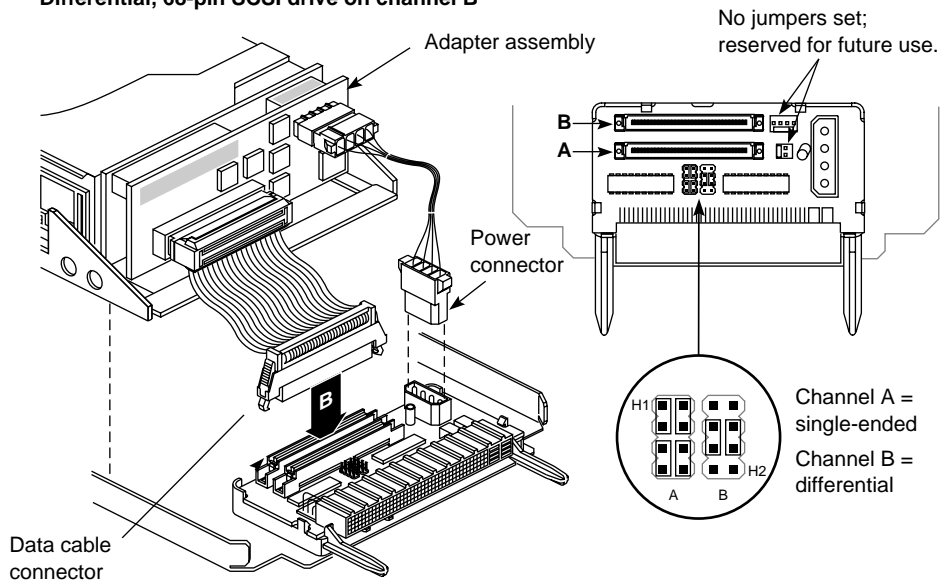

Figure 4-1 Configuring a Drive Sled Adapter Board (Different Channels)
The service person must follow the guidelines in Figure 4-1 to make a SCSI drive work in a deskside system.
- Be sure the sled-to-drive connector cable is plugged into the correct SCSI channel: single-ended(A) or differential (B).
- Set both jumper blocks H1 and H2 on the sled board to reflect the SCSI channel operation, regardless of which channel is plugged into the drive (see Figure 4-1).
- If the SCSI backplane bus is only single-ended or only differential, set all the jumpers in H1 and H2 for that mode of operation (see Figure 4-1).
The factory shipped your Onyx desktside workstation with channel A configured as single-ended and B as differential. If the system has been modified, or if you are uncertain as to the configuration of SCSI Channels A and B, you must remove an existing drive. Pull the locking lever on the drive sled to the left and pull the drive and sled assembly gently out of the rack. Compare the settings on the adapter board to those in Figure 4-1 or Figure 4-2. Match the configuration of the new device's adapter board with the intended mode of operation (single-ended or differential).